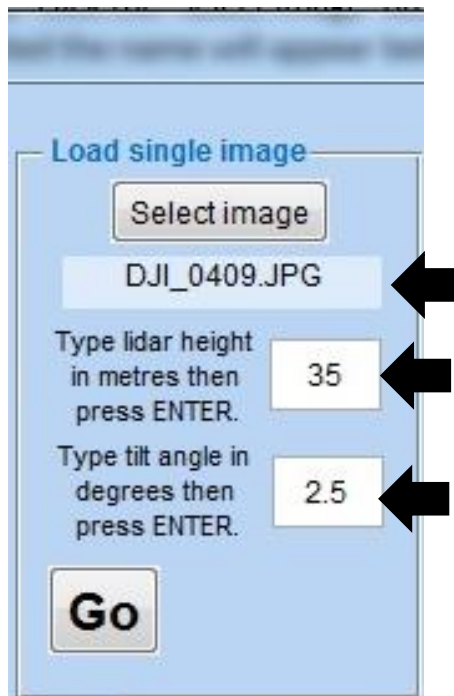

Figure 17
1. In the panel labelled 'Load single image' click the 'Select image' button and browse to the image to be processed. Once the image is selected the name will appear below the button (see figure 17).